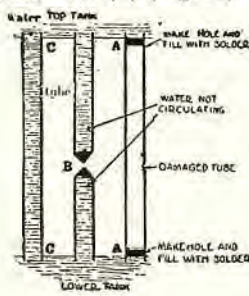

Fig. 89
In the cellular type (Fig. 86), the water flows around the cells and air circulates through the cells, whereas in the tubular type of core, the water flows through the tubes (Fig. 89), and air circulates around the tubes.
When only one or two tubes are damaged,¹ the tube can be cut out of service altogether; for instance, see (A) (Fig. 89). Make holes at the extreme top and bottom of the tube and as close to the header as possible, using a prick punch. Flow solder into the holes liberally, and let it set until hard. See (A) (Fig. 89).